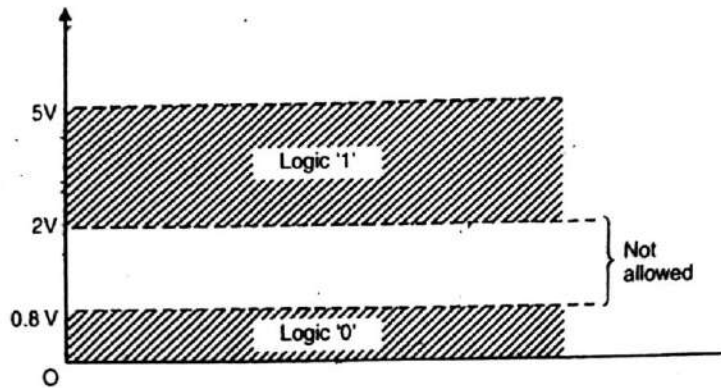

Fig. 2.106. Voltage assignment in a digital system.
- A unique characteristic of Boolean algebra is that variables used in it can assume only one of the two values *i.e.*, either 0 or 1. Hence, every variable is either a 0 or a 1 (Fig. 2.106—limits on TTLIC's).